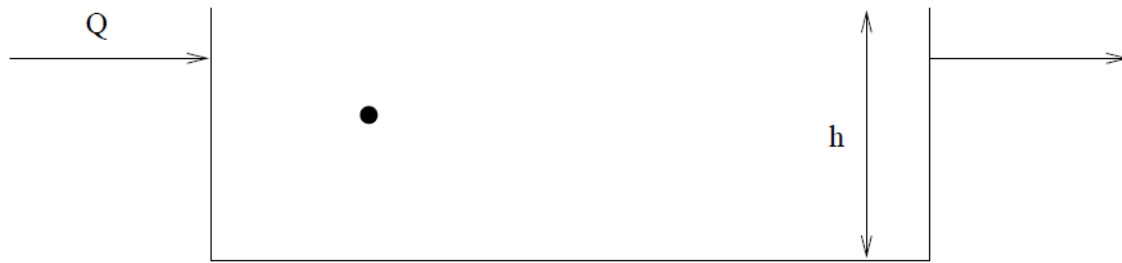

Figure 9: Ideal settling basin with a height of h and inflow rate Q
The velocity of the particle in (14) can be used to design the settler. If we assume our settler to be approximately given as shown in Figure 9, then the length of the settler is set to allow for enough time for the particle to travel h distance. The time a unit element resides in a basin is given by: